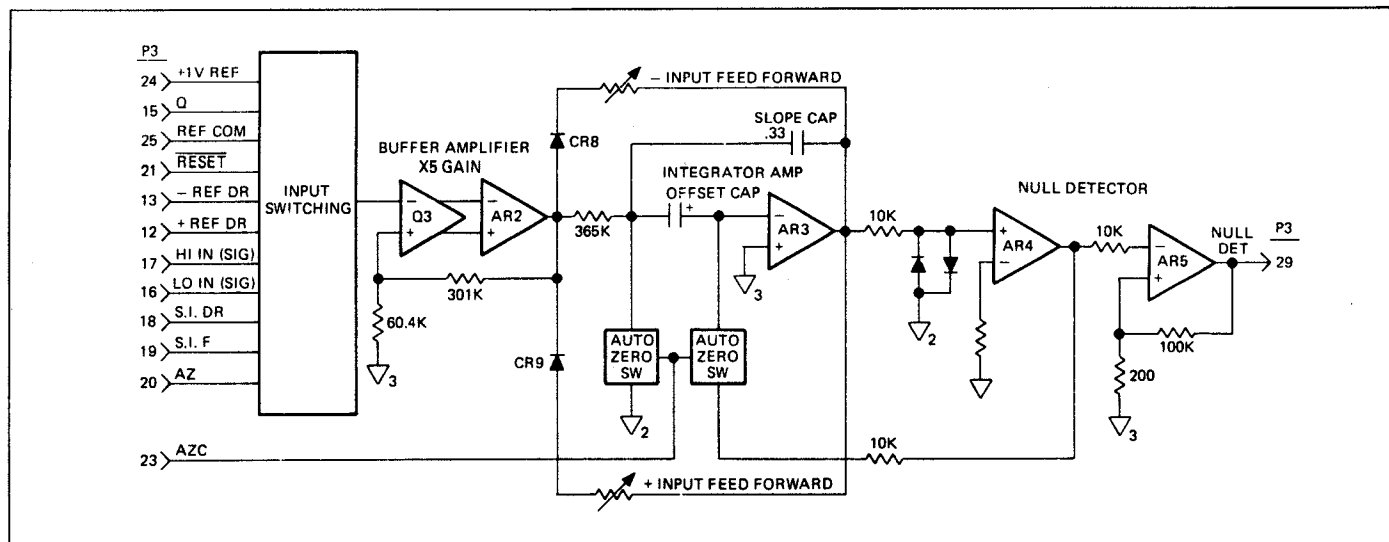

Figure 4.12 - Digitizer
4.3.12.1 The digitizer is the circuit which performs the analog-to-digital conversion of the measurement signal and is illustrated in figure 4.12. The digitizer uses the dual slope integration technique to perform the analog-to-digital conversion. Refer to figure 4.2 for the cycle timing relationships that relate to the dual slope integration. Refer to figure 4.13, page 4-11, for the reference and measurement input switching. Note that the switches are coded with cross-hatch shading. This illustrates the switch closure timing as shown in the timing chart at the right of figure 4.13. For example, U3A and U3B close to apply the +1 Volt reference voltage across the Reference Capacitor during the reset (RST) portion of the measurement cycle. During the reset portion of the measurement cycle the two reset switches close placing the offset capacitor across the output of the null detector amplifier. This charges the offset